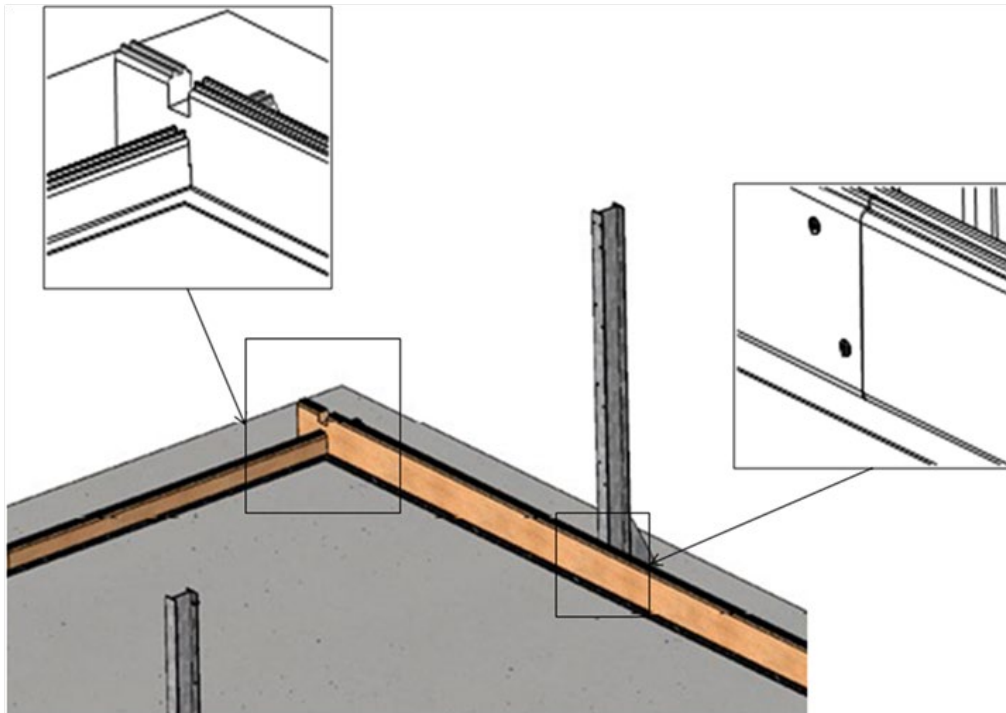

Figure 10 – Screwing the slats together
- referring to *Figure 10*, screw the slats together using 2 screws per pair of slats in each of the